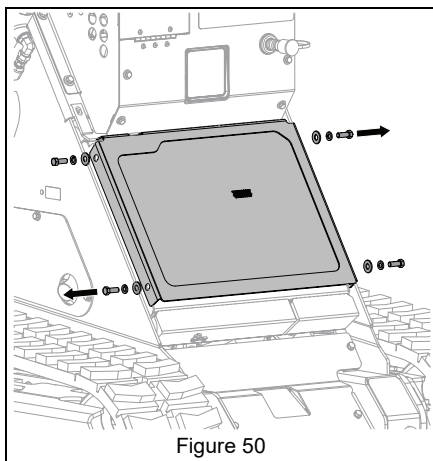

Figure 50
2. Remove bolts and washers from left and right sides of radiator cover. See Figure 50.